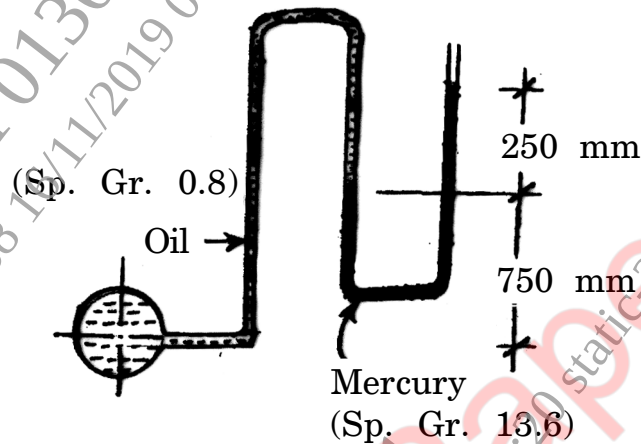

Fig. 1 (b)
- (b) Figure 1 (b) shows a manometer connected to a pipeline, containing an oil of specific gravity 0.8. Find the pressure of oil in the pipe. [6]